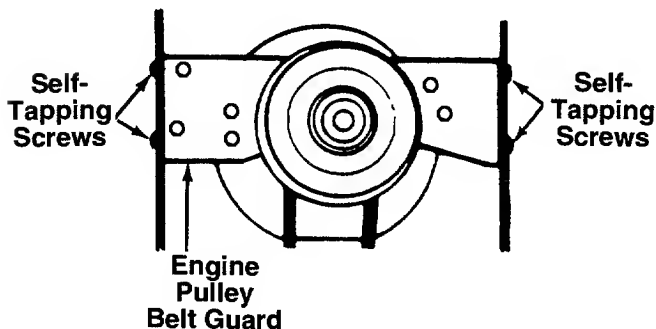

FIGURE 25.
5. Remove the two self-tapping screws on each side of the frame which hold the engine pulley belt guard to the frame. See figure 25. Remove the engine pulley belt guard by slipping it forward and down.